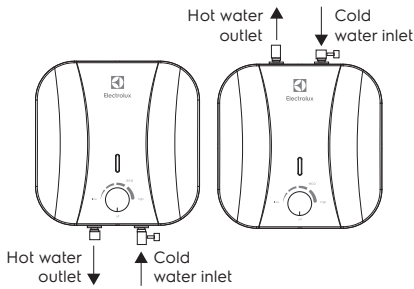

Figure 6
3. The safety valve should be mounted at the water inlet (see figure 6).